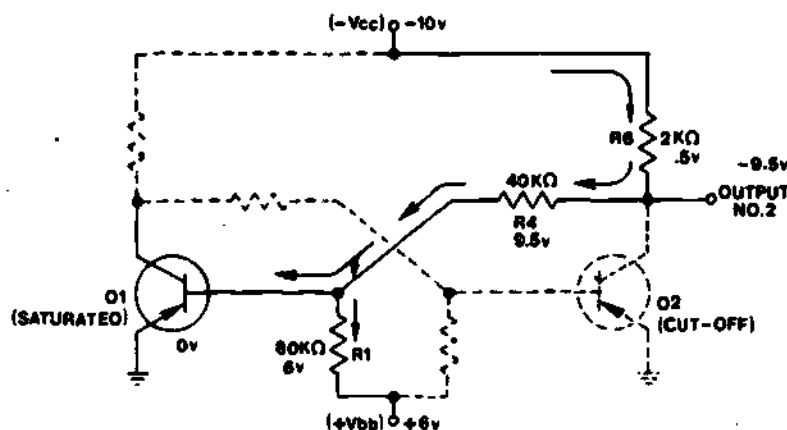

Figure 3
5. Let's assume that in the initial state transistor Q1 is saturated and Q2 is cutoff. Remember that the voltage drop from the base to the emitter of a saturated transistor is essentially zero volts. Figure 3 shows the voltage drops on the voltage divider network connected to the base of Q1.